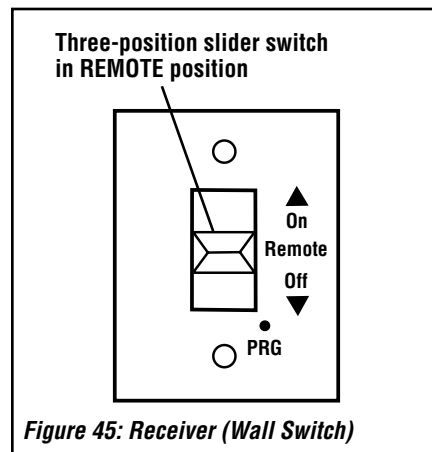

Figure 45: Receiver (Wall Switch)
- 2.6. On the Receiver, place the three-position slider switch in the REMOTE position (**Figure 45**).